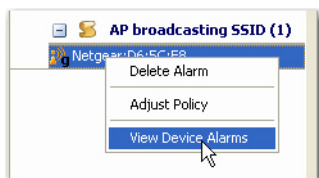

Figure 15-43: The right-click menu
- 2) Right-click an alarm, and select **View Device Alarms** from the pop-up menu. See Figure 15-43.